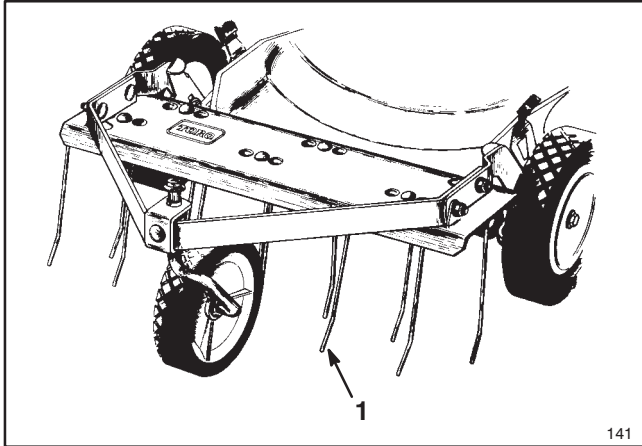

Figure 30
1. Dethatcher Kit, Model No. 59131—Installs in minutes. Front mounted for easy maneuverability. Spring tines loosen thatch for clean vacuuming into grass bag (Fig. 30) and convenient disposal.